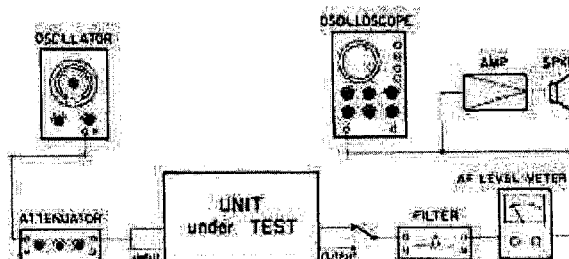

Fig. 9-5-14. Crosstalk Measurement Set-Up
1. Connect test equipment as shown in Fig. 9-5-14.